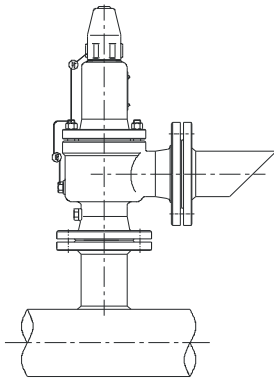

Fig. 4 For air or other gas
- 1) The bore of discharge pipe should be larger than outlet diameter of the valve as to cause excessive backpressure which may affect the action of valve. As to safety valves of different media, the laying type of discharge pipe shall vary (see Fig. 4, 5 and 6)